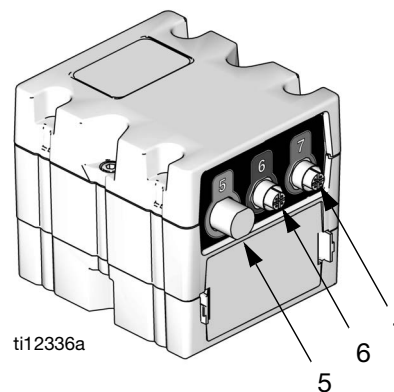

**FIG. 12: Fluid Control Module Front Connections**
2. Remove two screws (C) and FCM (A) from base (B).
3. Mount base (B) to system with four screws. Insert screws through top of base and tighten to system.
4. Mount FCM (A) on base (B) with two screws (C).
5. Connect cables to front of fluid control module. See FIG. 12 and the following table.